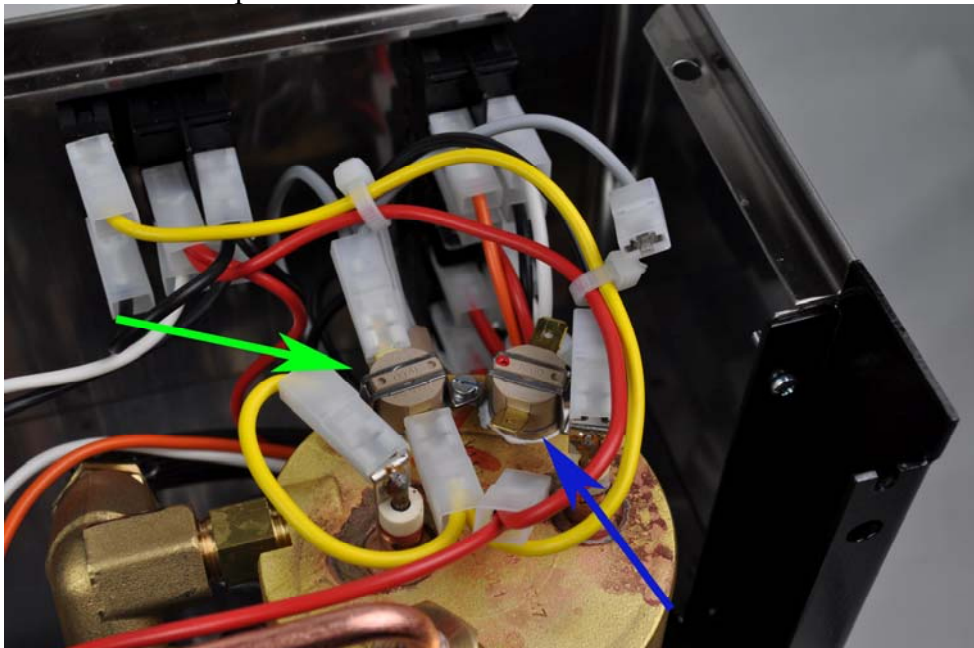
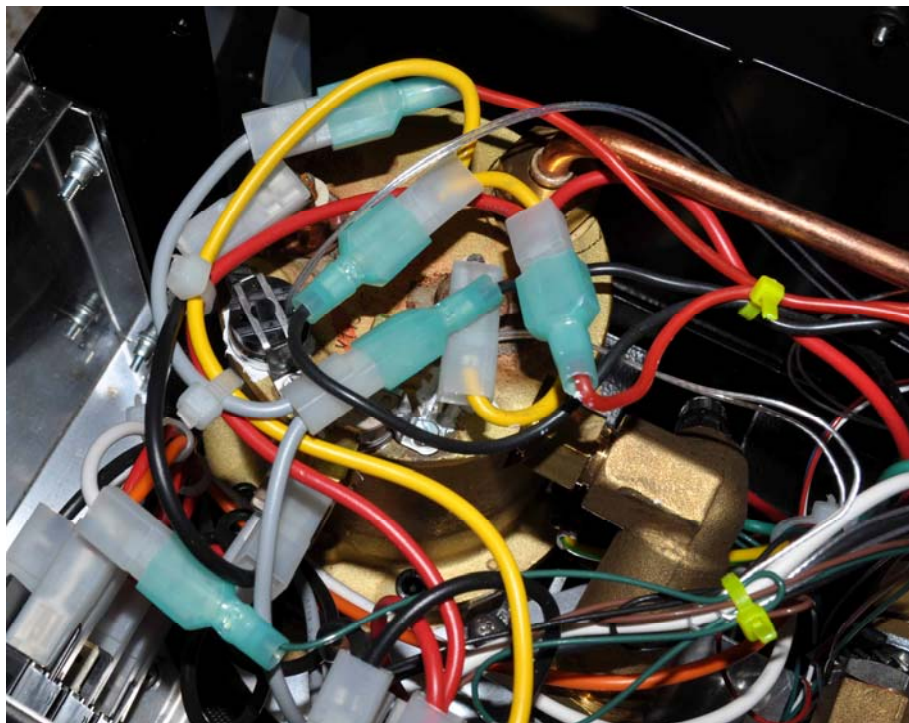

Figure 18. Brew control thermostat and steam control thermostat
Figure 22b. RTD sensor installed
- 2) There are two thermostats on top of the boiler as shown in Figure 18. The blue arrow points to the brew control thermostat (it has a red dot on the top). The two cables on it have been removed. One is the gray cable on top and other is the red cable below. These cables are going to be connected to the red cables from the SSR output. The green arrow points to the steam control thermostat. The cables on it need to be removed and connected to the black cables from the SSR output.
- 1) Install the RTD sensor. The RTD sensor should sit in the same place as the original brew thermostat was located (indicated by the blue arrow in Fig 18). Remove the brew thermostat by loose the screws that hold it. Insert the RTD sensor to the same bracket that was used to hold the brew thermostat. Sometimes, it is convenient to work on the screws by temporarily removing the cable connector on the left side terminal of the heater (green arrow on Figure 22b). Please note that if the machine is old and as a result, the plastic protection guard of the heater connector is brittle, it might break off and leave some unprotected spots. You need to use a small to medium sized flat head screw driver to remove the screw. Be very careful to not let it drop into the gap below. If it drops to the top of the grouphead, it could be a lot of trouble to take it out. A magnetized screw driver will help. Apply a small amount of silicone heat transfer compound to the bottom of the RTD sensor before installation. This will ensure a fast and accurate temperature measurement. Fig 22a shows the RTD has been installed (marked with red arrow).